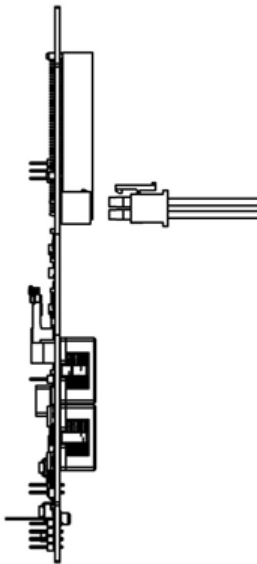

Figure 11.2 Power Connection
4. Disconnect the power cable assy from the main PCB assy (**Figure 11.2**).
3. Reconnect the power cable assy to the main PCB assy (**Figure 11.2**).